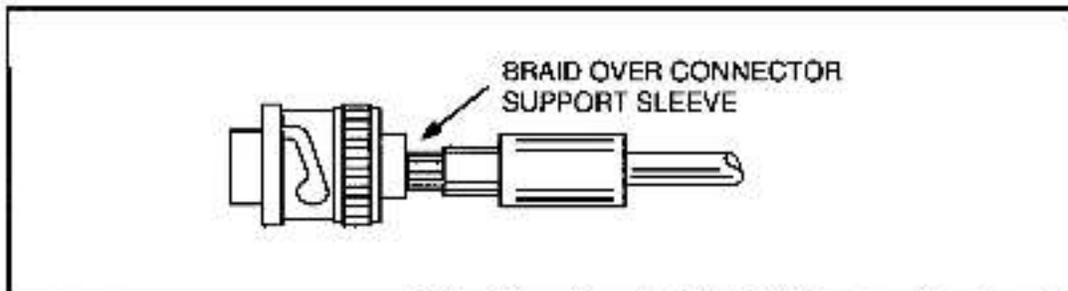

Figure 3.12 - Connector Installation Step 7 for RG-59/U Cable
- Step 7. Insert the crimped center contact into the connector body until the cable dielectric butts against the dielectric inside the connector body. The flared braid will then fit around the support sleeve of the connector body, as shown in figure 3.12.